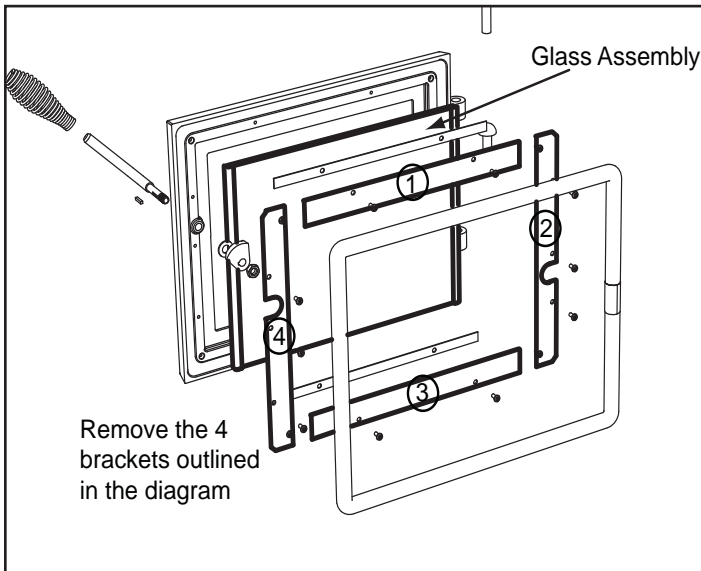

Figure 24.1
2. Using a Phillips Head screw driver, remove the 4 brackets and set aside. **Figure 24.1.**